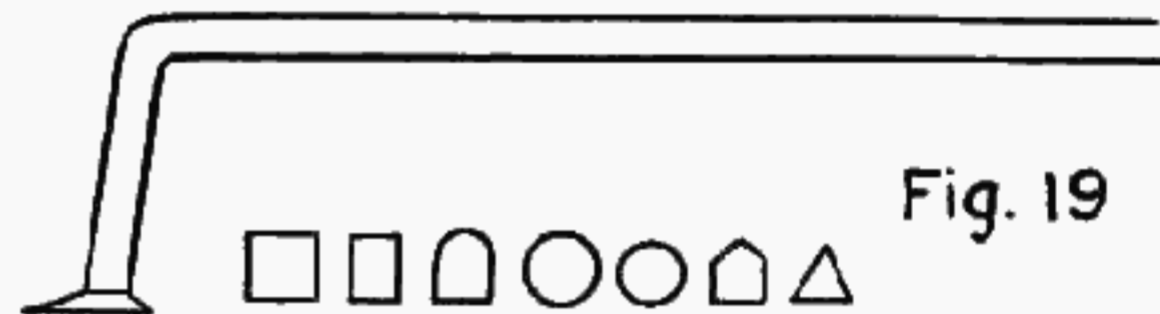

Fig. 19
**BOTTOMING TOOLS.** Ordinary chisels and carving chisels often will not reach into a deep cut to clean out the bottom surface smooth and even. A bottoming tool should be made from drill rod, forged and filed to shape to meet the requirements of the job. Typical bottoming tools are shown in Figure 19. They may be any shape indicated by the cutting you want to do, and may be made of drill rod.